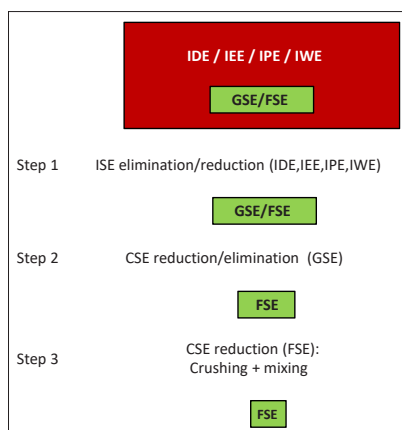

Figure 3. Counteracting TSE by successive ISE and CSE reductions. © KHE Consulting
- 8) Total Sampling Error (TSE) reduction as mitigated by appropriate sampling procedures. In Figure 3, the relative TSE contributions are proportional to the indicated red/green areas (ISE + CSE).
The overwhelming contribution to the TSE is due to incorrect sampling equipment/sampling procedure elements, which have *not* been counteracted w.r.t. ISE (IDE, IEE, IPE; IWE) (red in Figure 3), i.e. in which the sampling bias has *not* been eliminated. Depending upon the empirical heterogeneity of the material being sampled, the ISE-component typically makes up from 50% to 80% of the TSE. For this reason, it makes little sense, or no sense at all, to deal with
sampling precision (due to CSE only) (green in Figure 3) *without* first having demonstrated successful sampling bias elimination (or significant reduction to comply with a fit-for-purpose representative sampling threshold). This can either take place by improved equipment design (by only using equipment in which sampling bias errors have been fully eliminated), or by optimising sampling procedures by informed, TOS-compliant diligence; or call in a sampling expert.